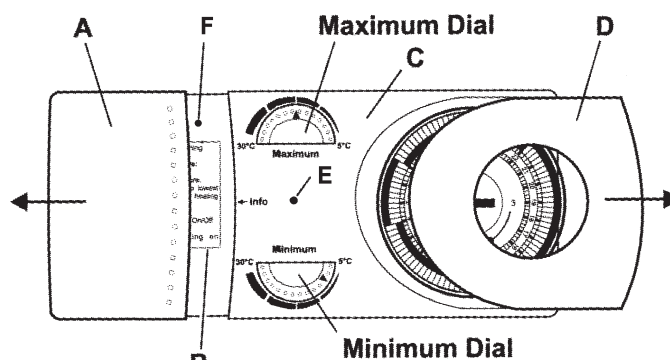

Fig. 5
5. User Instructions - see Fig. 5
Maximum setting - Rotate the Maximum dial (see Fig. 5) to give the required room temperature upto 30°C when heating is on.